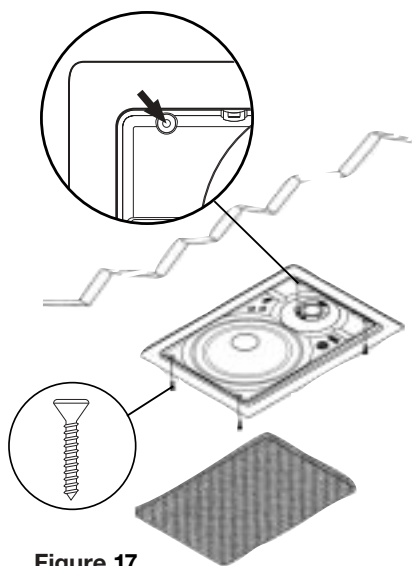

Figure 17
- b. Place the self-tapping sheet metal screw in the dimple and turn it with a screw driver until it cuts through the baffle and anchors securely in the frame (See Figure 17).